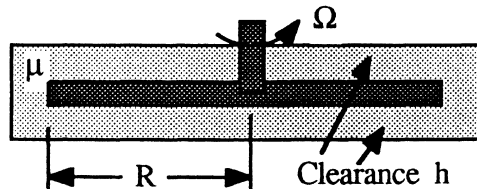

Fig. P1.54
**1.54\*** A disk of radius  $R$  rotates at angular velocity  $\Omega$  inside an oil container of viscosity  $\mu$ , as in Fig. P1.54. Assuming a linear velocity profile and neglecting shear on the outer disk edges, derive an expression for the viscous torque on the disk.